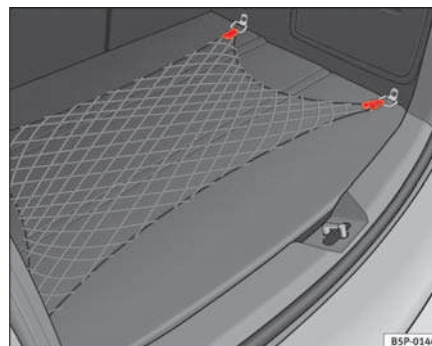

Fig. 105 Retaining net
- Use the fastening rings located on the side of the luggage compartment to attach the retaining net ⇒ fig. 105.